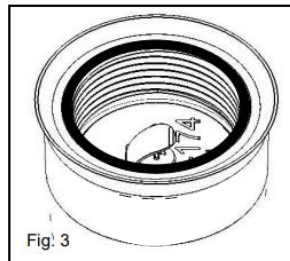

Fig. 3
**4. Tuning and Installation (Figure 3):**